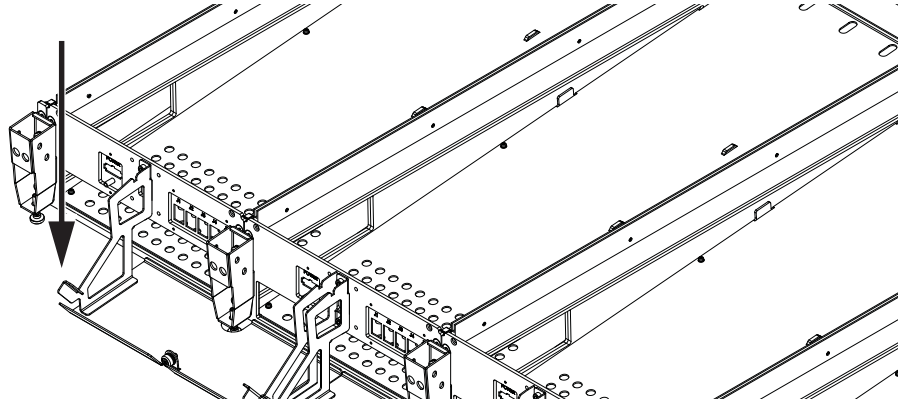

Figure 27. Gap for power strip AC and workstation Ethernet
- 1 Before attaching the outer Side Covers, make sure to route the single Ethernet (workstation) cable and the AC supply to the power strip across the Rear Panels and down through the gap to the right (or left) of the outer Rear Panels (see Figure 27).